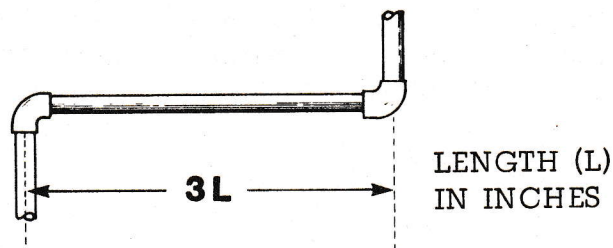

Figure II-6
The drawing in Figure II-6 shows the construction of a simple offset. An offset using two 90° elbows should have a minimum offset of not less than three times the length (L) determined from Table II-2.